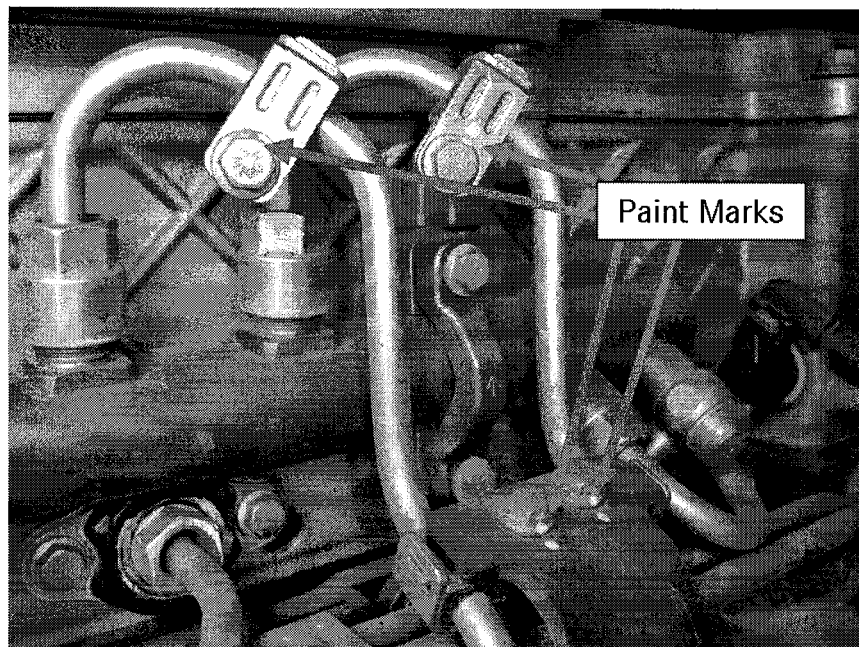

Figure 4 – Paint Marks on Vibration Damper Bolts and High Pressure Fuel Feed Line P-Clip Bolts
- a. If the Return Line P-clip bolt (7) is missing, replace with bolt P/N: N910105006023.
- b. If the Return Line P-clip (3) itself is missing, replace with:
- c. If any of the bolts holding the High Pressure Fuel Feed Line Vibration Dampers (4), High Pressure Fuel Feed Line P-clips (6), or High Pressure Fuel Feed Line Mounting Bracket (2) are missing or damaged, proceed to step 11.
- d. If any part of the High Pressure Fuel Feed Line Vibration Dampers (4), High Pressure Fuel Feed Line P-clips (6), or Lower P-clip/Vibration Damper Plate (8) are missing or damaged, proceed to step 11.
- e. If the Lower P-clip/Vibration Damper Plate (8) is not inserted in the P-clip Window (9), proceed to step 11.
5. Begin a **PHYSICAL** inspection by doing the following: See Figure 4.